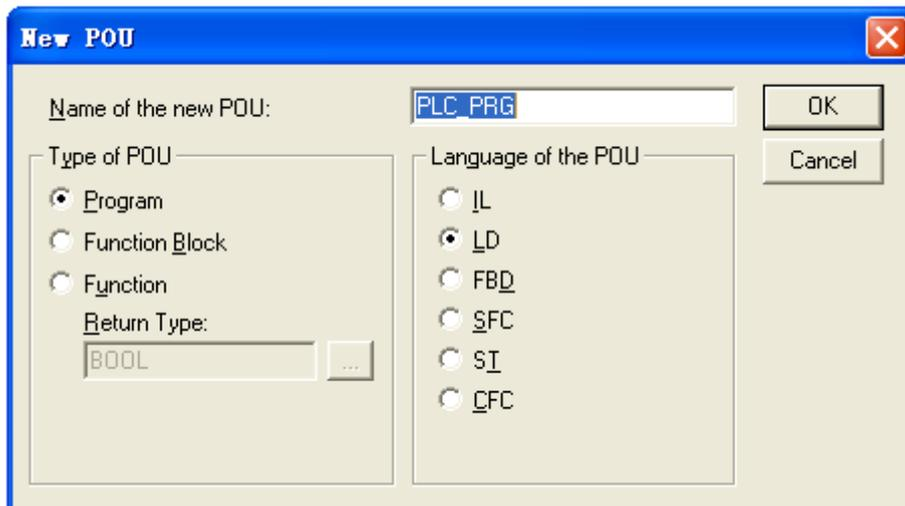

Figure 3-3-3 New POU
- Here the “LD” language is used as an example. Select “LD” in the “Language of the POU” option, as shown in figure 3-3-3. See chapter 9 for detailed explanations for other languages.